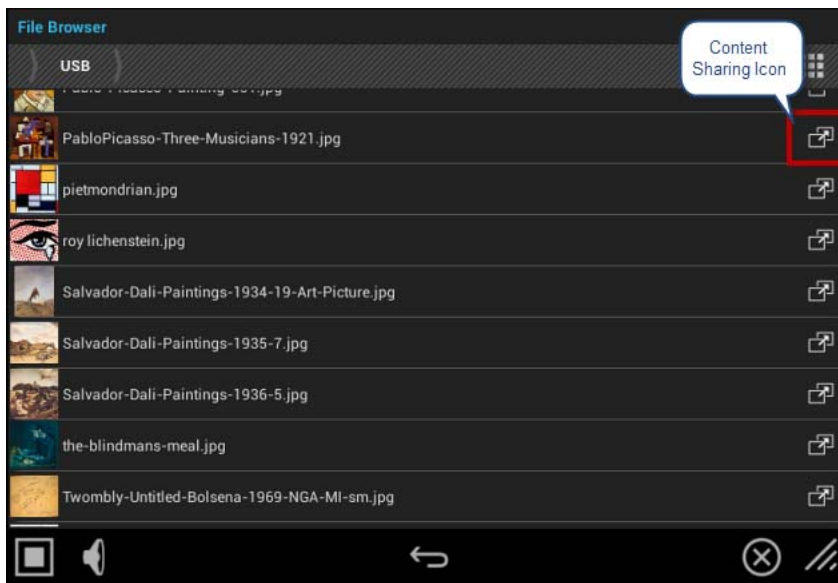

FIG. 123 File Browser - Content Sharing Icons
- Note that in the File Browser application, Content Sharing icons are presented for each file. An example view of the File Browser application is shown in FIG. 123: